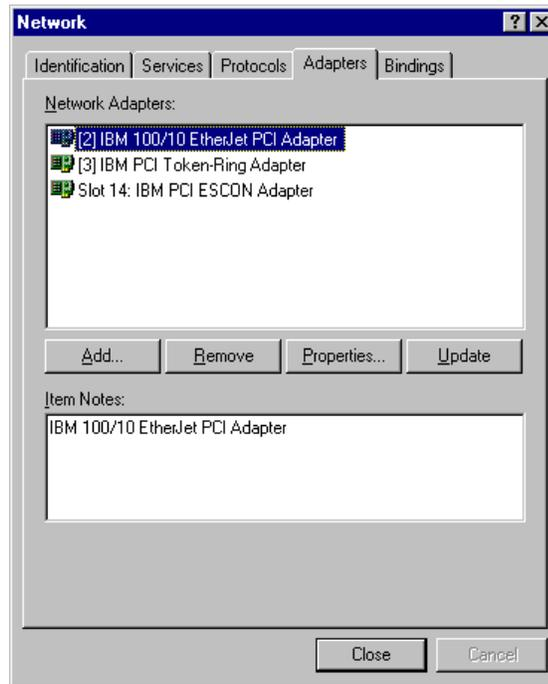

Figure 3-6. Network Settings with Netfinity ESCON Adapter
6. Once the addition procedure is complete, the system will return to the **Network** dialog box. As shown in Figure 3-6, the **PCI ESCON** adapter should now be listed in the **Network Adapters** box. Clicking **OK** will cause the system to configure the network and prompt you to restart the system.